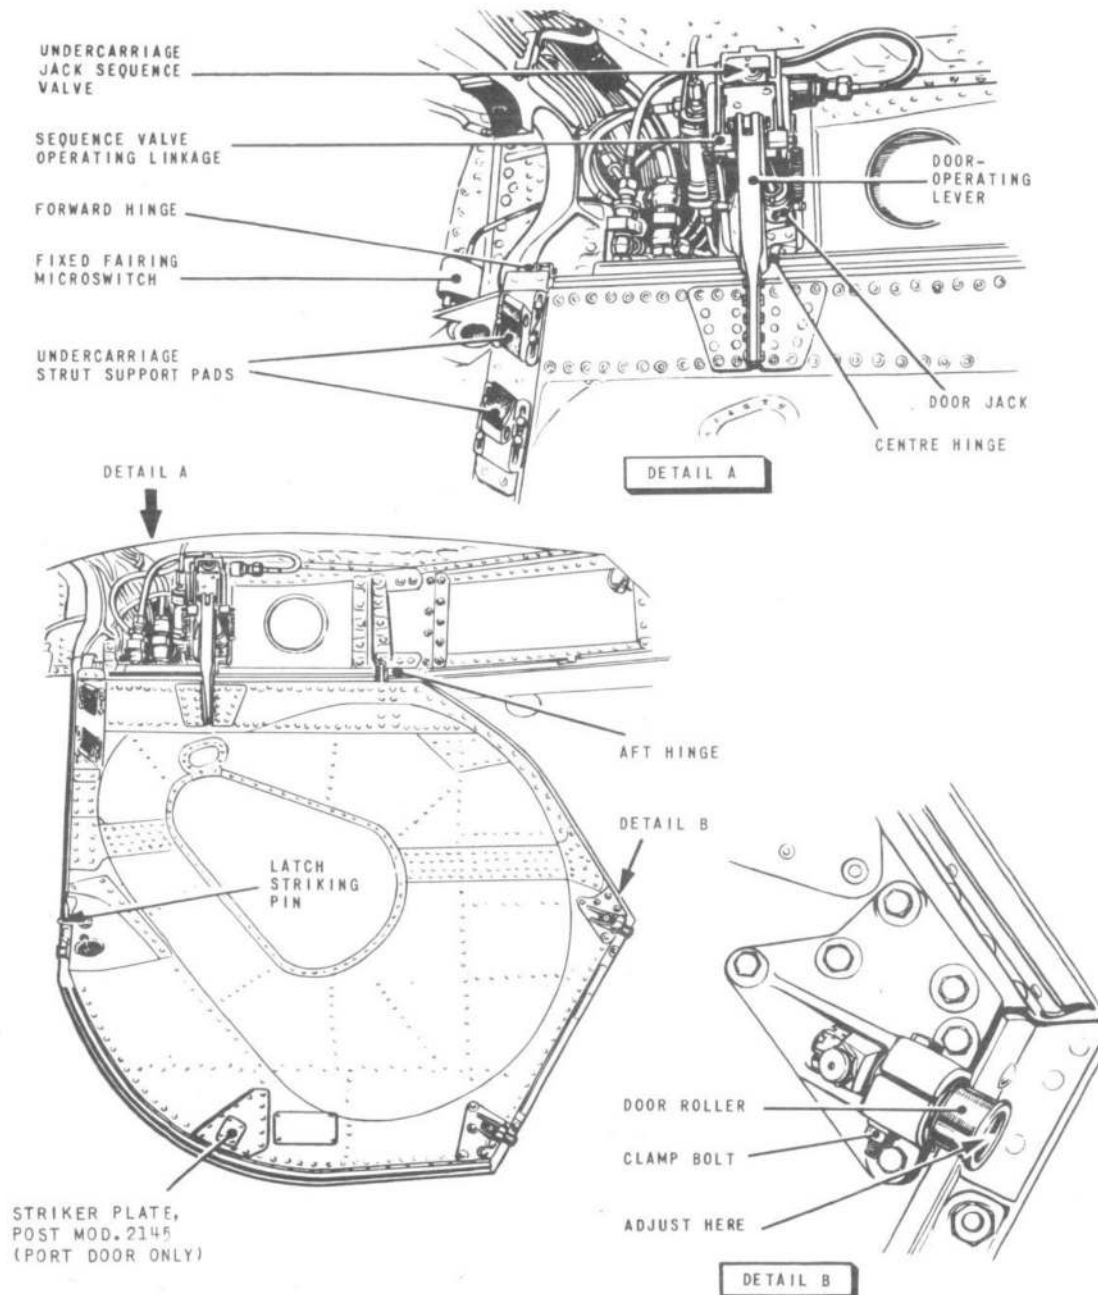

Fig. 2. Wheel-well doors
Wheel-well doors (fig.2)
11. Three microswitches are fitted to each main undercarriage, two to indicate correct retraction and locking, and one to indicate correct locking in the down position. The up microswitches are fitted, one in the latch mechanism (para.9) and one on main-plane rib 11B (fig.2), the latter being tripped by the fixed fairing when the strut is fully retracted. The electrical circuits of these two switches are arranged so that the cockpit indicator lights will be extinguished only when both strut and door are fully retracted and locked. The down microswitch is fitted to the radius rod and is operated by the main down-lock only when the latter is fully engaged. For further details of the microswitch electrical circuits and cockpit indicator functioning, refer to Sect.6, Chap.5.